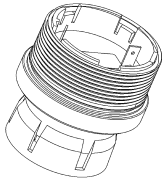

Fig. 51 Sensor Assembly and Environmental Guard for General-Purpose Model
- (1) There is no need to open the main enclosure; simply unscrew the sensor assembly located on the bottom of the ULTIMA X Series Gas Monitor main assembly [→ Fig. 51].